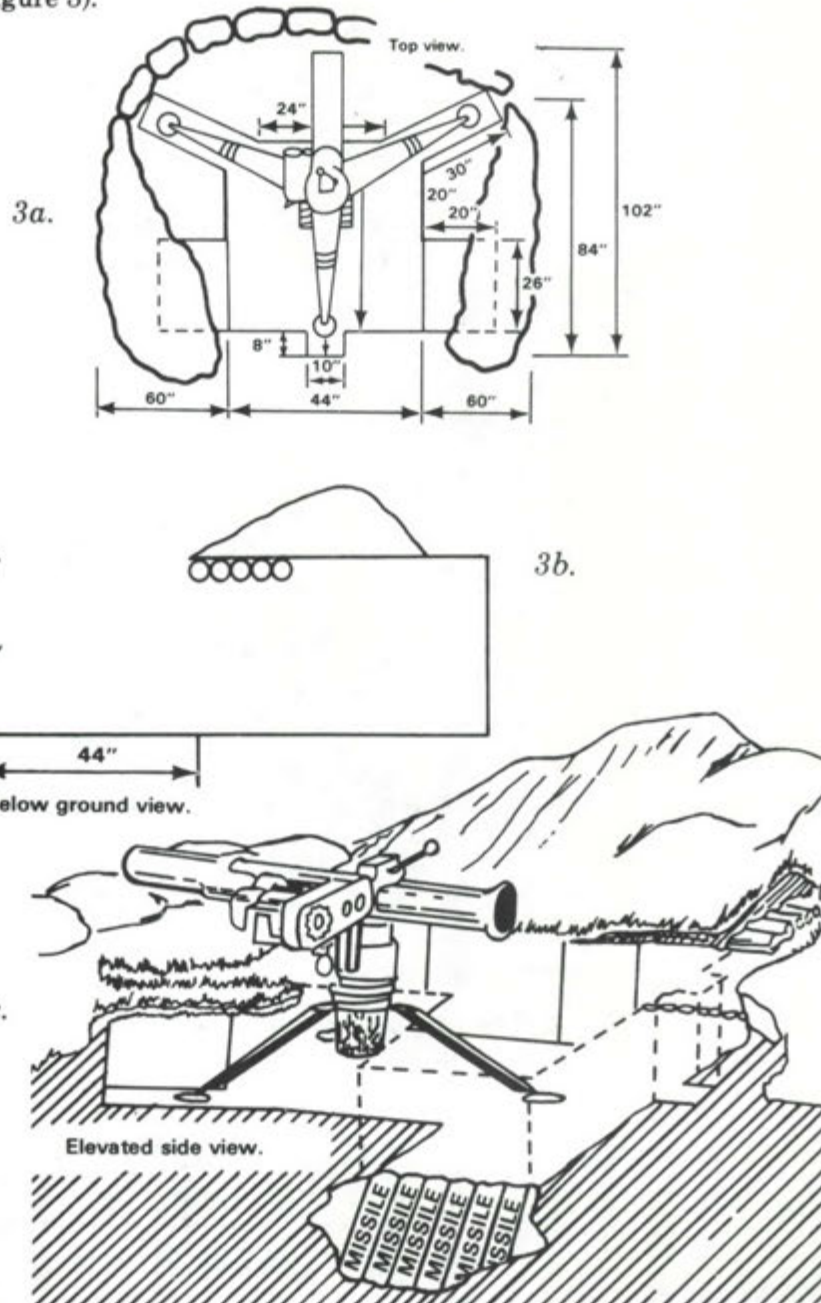

Figure 3.
(1) When you prepare your position, dismantle only the tripod at first to outline the position. Dismount the rest of the launcher when the position will protect it.
(2) Dig the holes for the launcher, the gunner, and the assistant gunner first (figure 3).